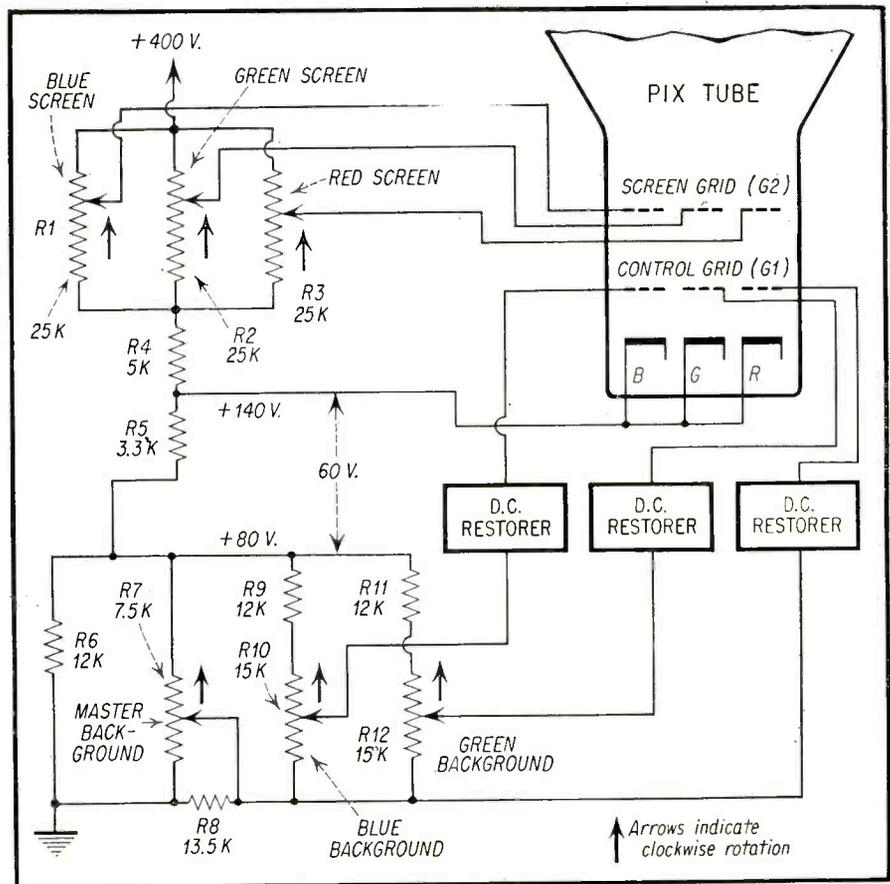

Fig. 1—Simplified screen grid and control grid voltage supply of a typical I/Q receiver.
A simplified schematic of the screen grid and control grid voltage supply of a typical I/Q receiver is shown in Fig. 1. Here we observe that the red, green, and blue screen grid voltages are obtained from individual potentiometers which form part of the voltage divider system between the 400V B+ line and ground. When the master background control is advanced completely in a clockwise direction all grids receive a negative bias of 60 volts with respect to cathode. The purpose of adjusting the bias on the grids to -60 volt (or any other predetermined value) is to establish an identical cut-off point on all three control grids. This characteristic requires previous adjustment of the individual G2 potentials.
To make all black levels coincide as in Fig. 2 (B) would seem to dictate the need for three separate grid bias controls, these controls requiring continuous adjustment as the contrast control is varied. However, by the ingenious circuit arrangement shown in Fig. 1, once R10 and R12 (G and B Background Controls) are adjusted in conjunction with R7 (Master Background Control), the black levels of all three color signals will always coincide for any setting of the Master Background Control. The adjustment of these controls is as follows:
The background circuit in Fig. 1 insures a constant resistance voltage divider network. A study of this circuit will reveal that for any setting of R7, the background control, the resistance of the network is constant. As an example, let us assume two extreme cases, one with R7 turned completely clockwise, and the other with R7 turned down (counter clockwise). We will observe that with R7 turned clockwise the equivalent resistance of the network is: